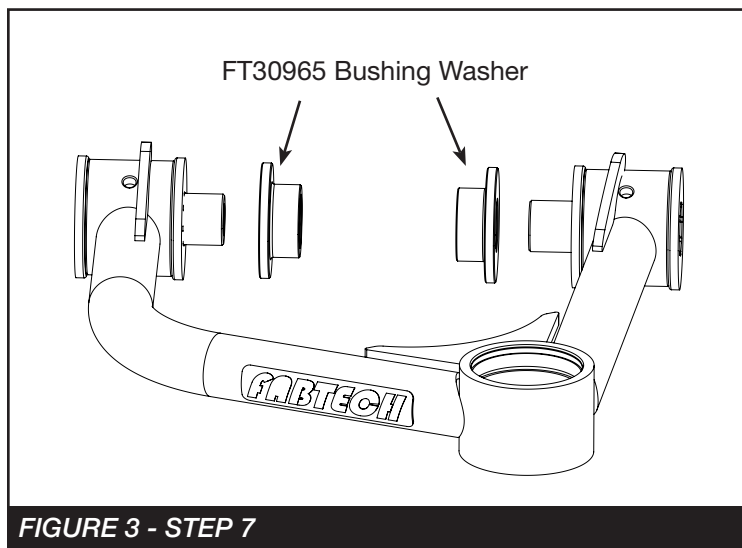

FIGURE 3 - STEP 7
7. Attach two FT30965 (Bushing spacer) onto the sleeves. **SEE FIGURE 3**